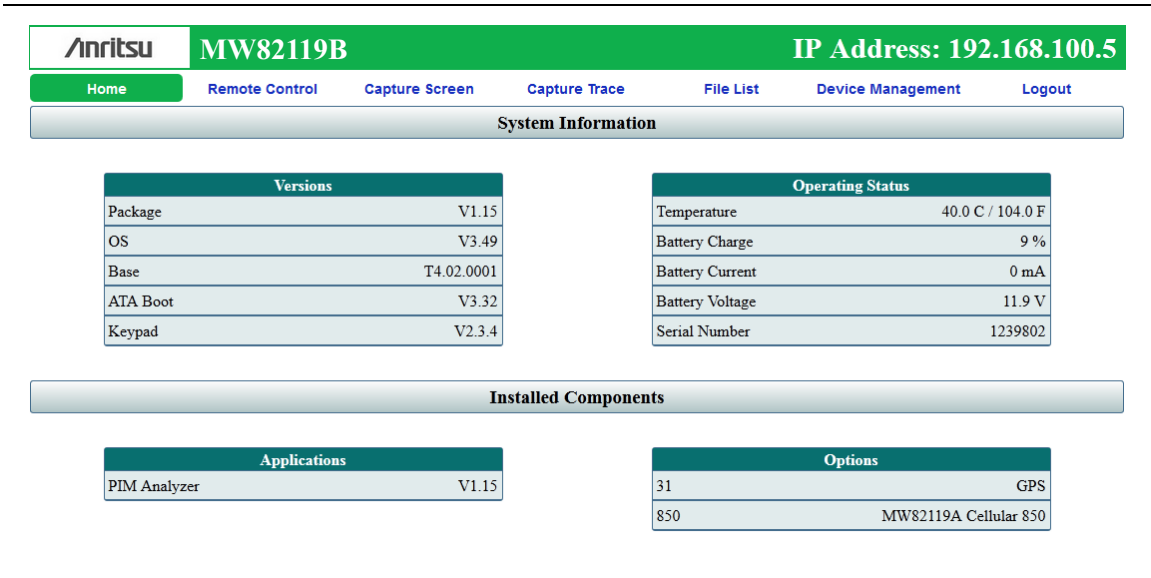

Figure C-4. Example of Browser Control Window
6. When the browser connection is complete, the initial instrument control window is displayed (see Figure C-4 on page C-5). This window provides instrument status information.
- The example IP address (192.168.100.5) appears in the title bar of the instrument control window (as shown in Figure C-4).